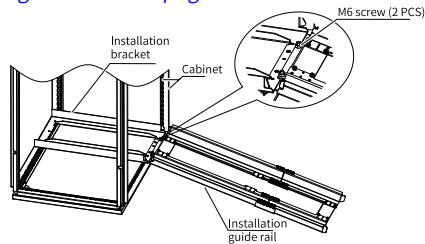

Figure 1-12 Mounting the guide rails to the cabinet
- b. Align the two round holes at the front end of the mounting rail with the screws of the mounting bracket, and then lock the guide rail to the cabinet with two M6 nuts, as shown in "Figure 1-12" on page 26.